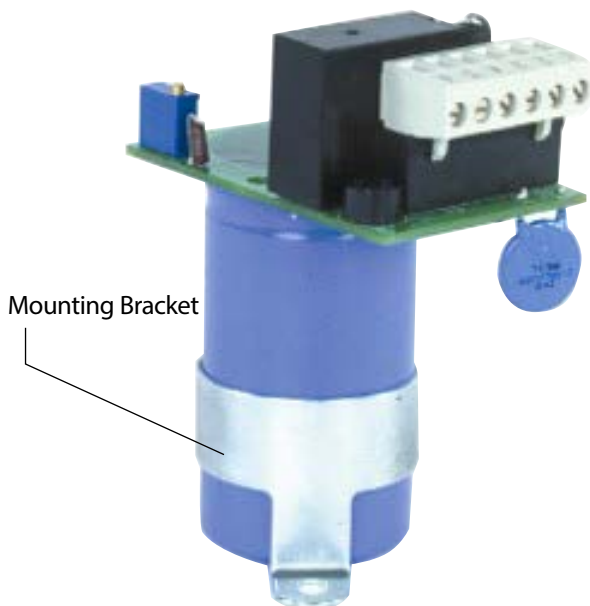

Figure 1
1. Adjust the capacitor-mounting bracket (Figure 1) on the capacitor in order to fit the mounting space on the actuator gear plate. The terminal block should face the conduit entry. Mount the bracket to the plate with the 8-32 screw provided.